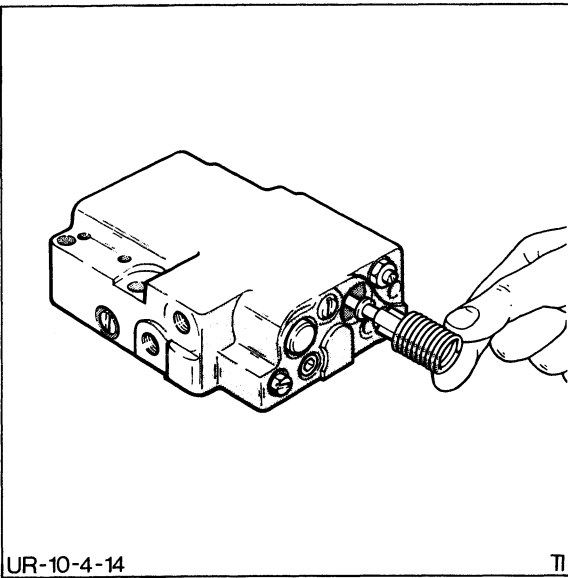

FIGURE 8-82
2. Gently tap the spool on the handle end and remove the spool from the centering spring end, Figure 8-82.